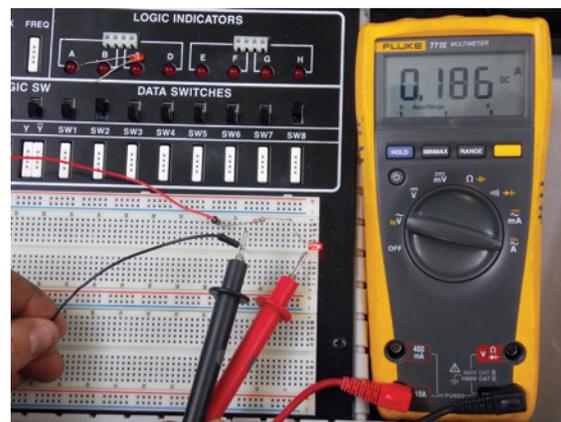

Figure 2.5 Using a volt meter to test current (courtesy author)
5. Current is the electrical flow through a circuit and is usually measured in amps or milliamps. To measure the current running through a circuit, break the circuit and reconnect the circuit using the probes. Again, if you hook the probes up backward, you will merely get a negative reading. The DMM acts as though it has no resistance in this setup, so it does not change the circuit but it will measure the electrical flow. Make sure to have the probes plugged into the right ports for current measurement and have the settings at the correct range (Fig. 2.5).